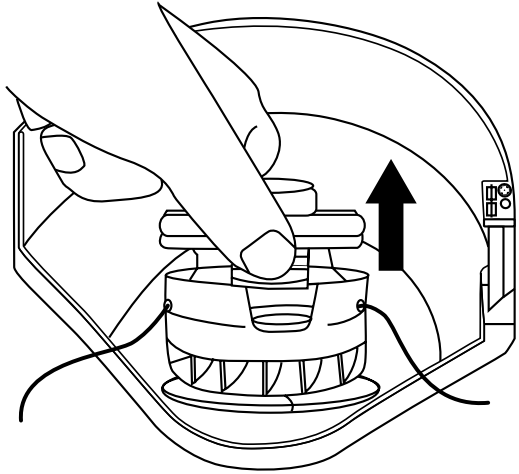

Fig. 14
3. Remove the spool from the spool cover (Fig. 14).